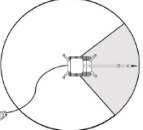

Figure 1: Example of machine operating risk zone and remote operator position.
- Always stay outside the risk zone when the machine is in operation (Figure 1), and do not enter until the machine is stopped mode or deenergified.